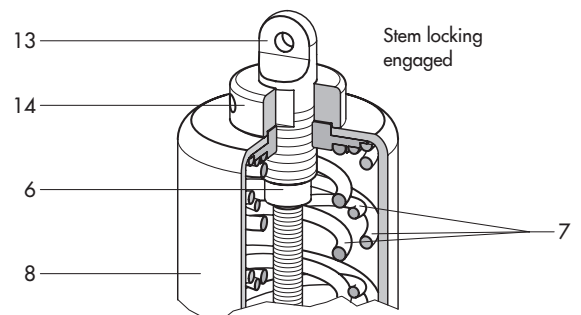

Fig. 3.3: Manual stem locking: Type 2371-11
Type 2371-11 only (see Fig. 3.3): to lock the stem into place, screw the pin (13) into the opening on top of the actuator housing in place of the blanking plug (6.1). The end of the pin comes to rest on the head of the set point screw (6). As the pin is screwed into the valve, it pushes the plug into the open position over the set point screw (6) and upper plug section (5). A mechanical stop (15) prevents it from being screwed in any further, protecting the diaphragm from overstretching or rupturing.